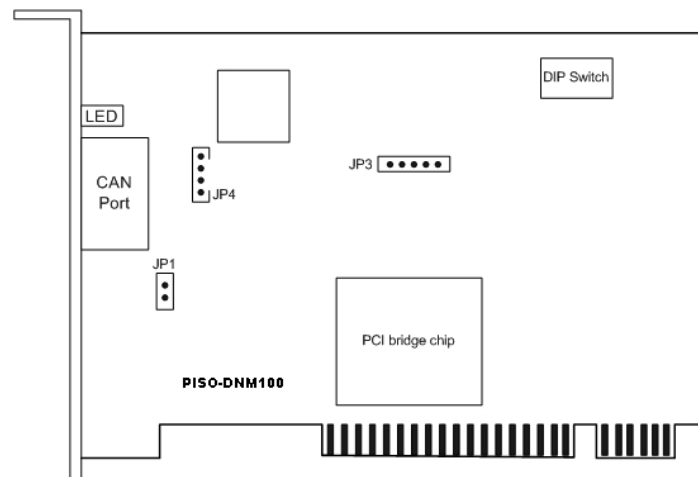
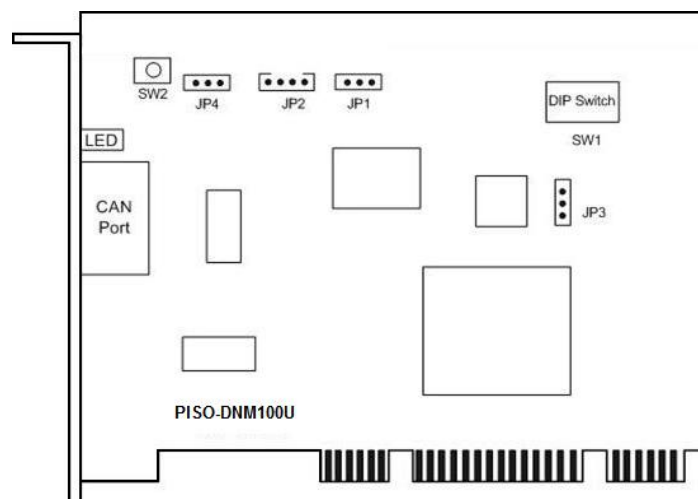

Figure2.1 PISO-DNM100 Board Layout
Figure 2.2 PISO-DNM100U Board Layout
2. Configure the DIP switch and JP1 of your PISO-DNM100-D/T for board No. and terminal resistance. More detail information could be found on the figure 2.1 and table 2.1. For the PISO-DNM100U-D/T, configure the DIP switch and JP4 of your PISO-DNM100U-D/T for board No. and terminal resistance. More detail information could be found on the figure 2.2 and table 2.2.